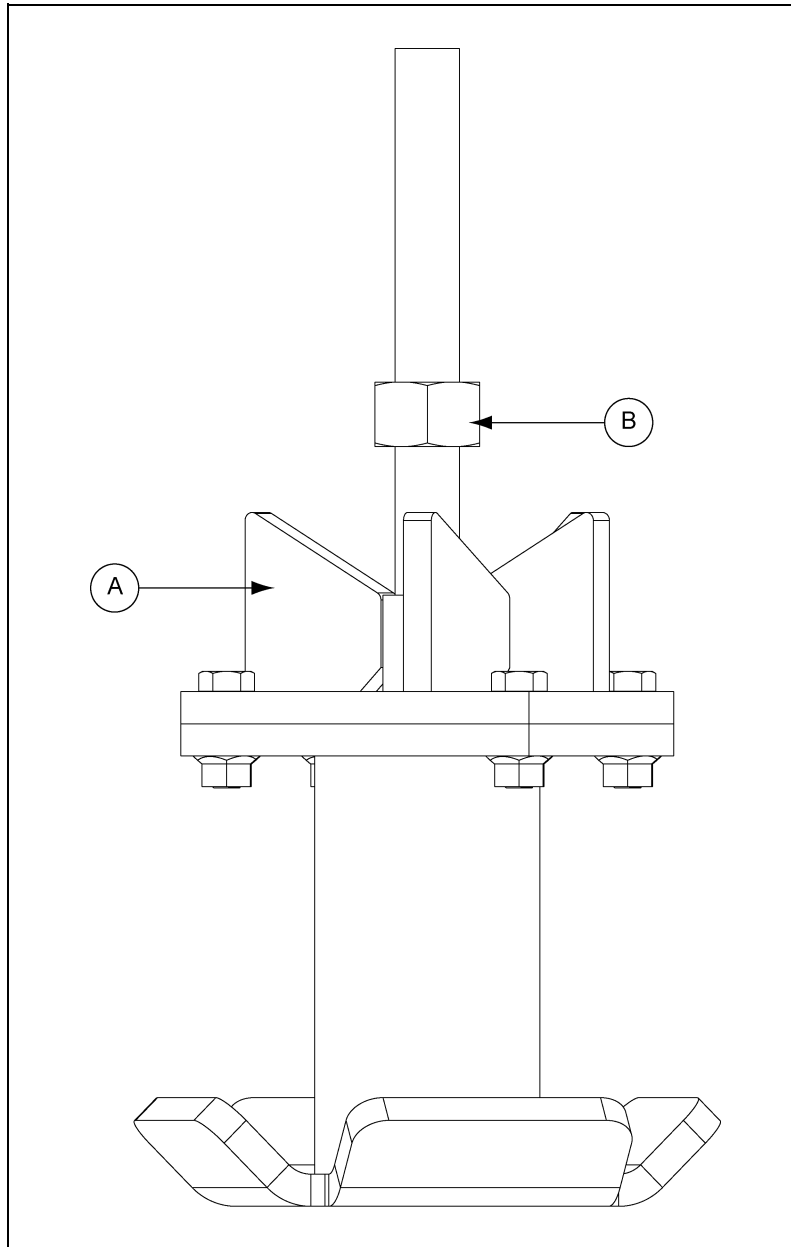

Figure 7W
1. Install hex nut (B) to mount (A). *(See Figure 7W.)*